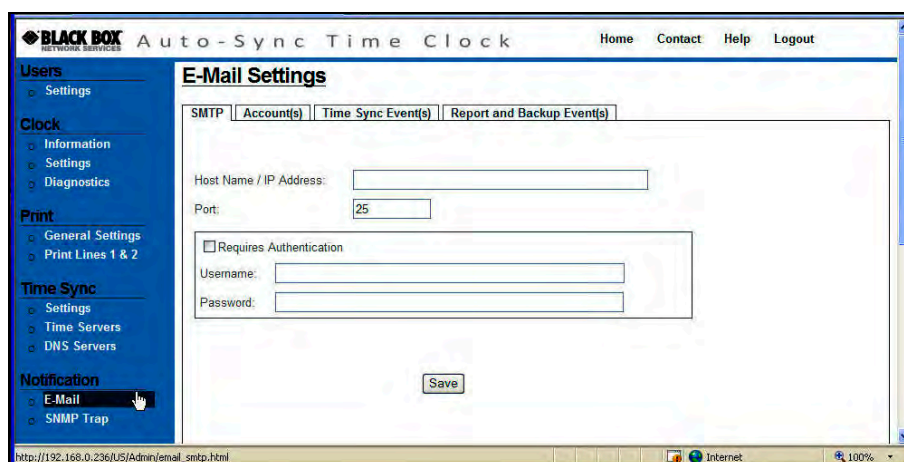

Figure 4-15. E-Mail Settings for SMTP.
1. Click on the **E-Mail** link under Notification, and the **E-Mail Settings** screen will appear with the SMTP tab (see *Figure 4-15*). Enter the "Host Name: IP Address" for the SMTP server.